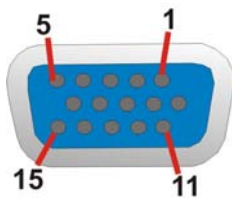

Figure 3-31: VGA Connector
- CN Pinouts:** See **Figure 3-31** and **Table 3-30**